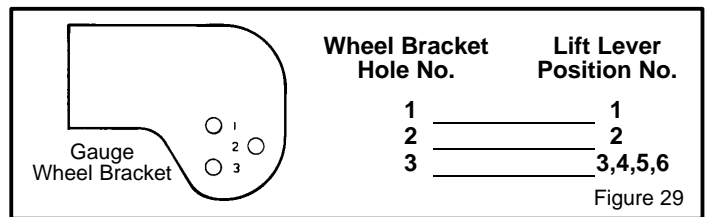

Figure 29
3. Look at each **gauge wheel bracket**. There are 3 holes in each bracket and a number next to each hole. The number for the height of cut position on the **lift lever** indicates the correct hole to use on each **gauge wheel bracket** (Figure 29).
4. Assemble the axle bolts to the **gauge wheel brackets** using the correct hole in the bracket as indicated (Figure 29).
NOTE: If the height of cut position is changed by the lift lever, you must move the gauge wheels to the correct hole (Figure 29) to keep a level height of cut.